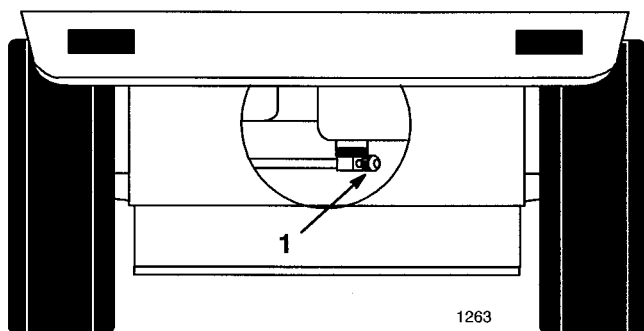

Figure 26
2. Close fuel shut-off valve at fuel tank (Fig. 26).
7. Open fuel shut-off valve at fuel tank (Fig. 26).